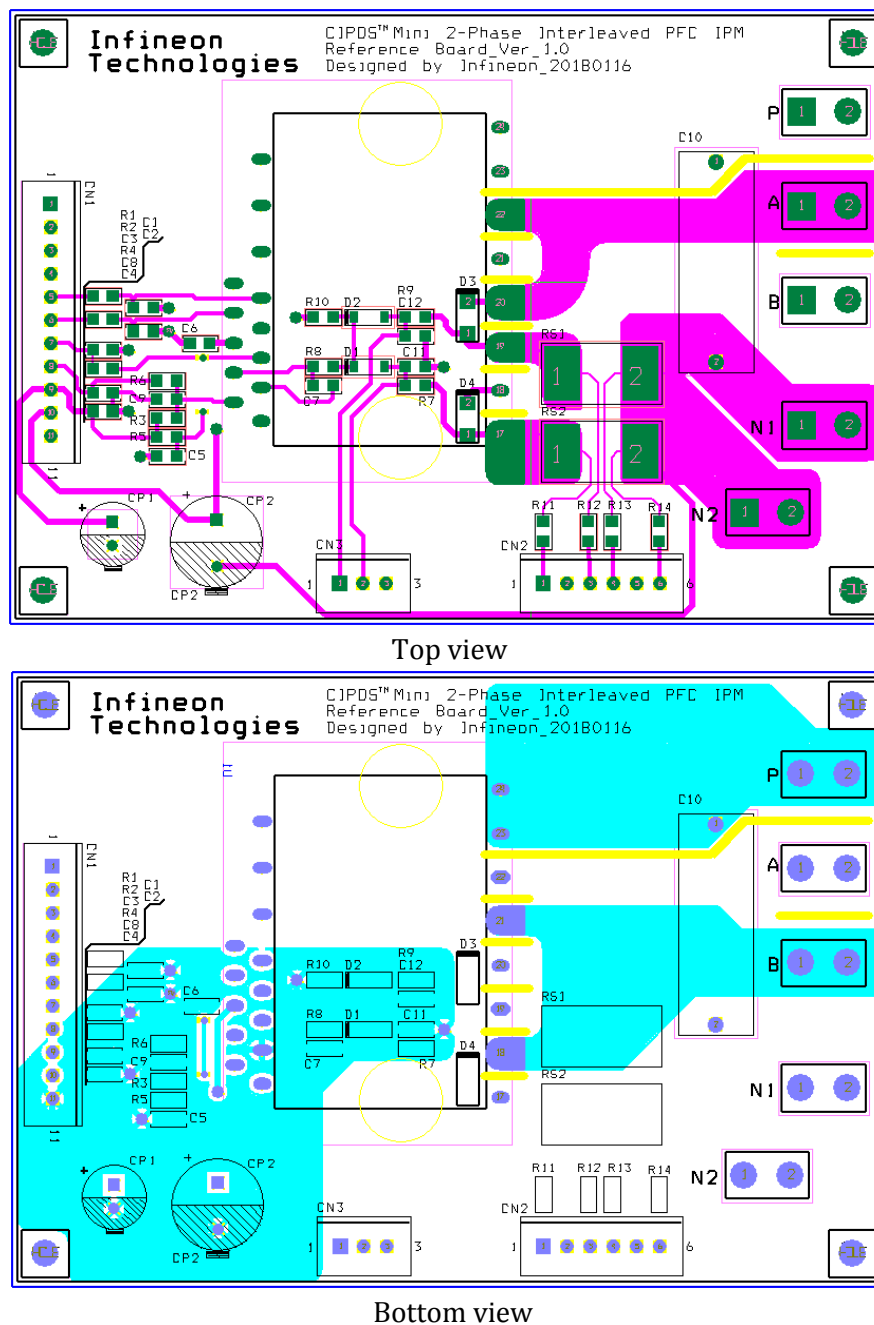

Figure 8 Layout of reference board for 2-shunt resistors
5. *In order to accurately detect the voltage of the current sensing resistor, both sensing and ground patterns should be connected at the pins of the current sensing resistor and should not be overlapped with any patterns for the load current, as shown in Figure 8.*